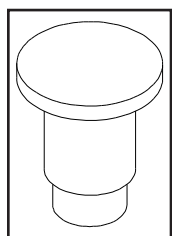

Figure 8:
**Note:** Before the bricks are installed, rivets (Figure 2) must be placed in the two (2) holes (shown in Figure 8) in the firebox that lag bolts came out of. This is done to make unit burn more efficiently.
1. Remove the thirteen T-20 screws holding the cabinet top in place (refer to Figure 8).